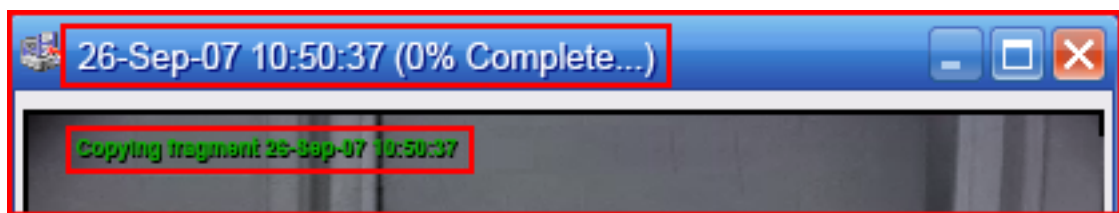

Fig. 4.10-13 Indicator of in-process recording export to file
- 4.2. Recording export to file is now initiated. The current export status is displayed in the upper left corner of the image output field and in the program box heading (see Fig. 4.10-13).